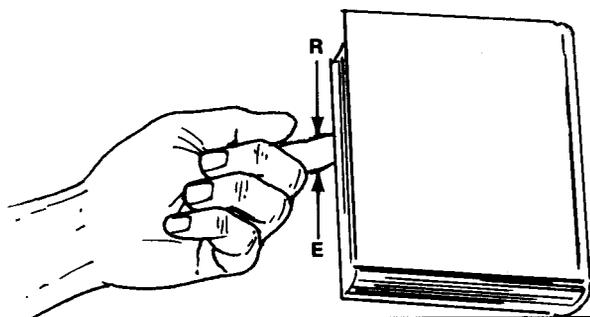

Figure 6-9
1. Select one of your hardbacked textbooks and place it on the desk or table. With one of your fingers lift the book by its edge (Fig. 6-9).